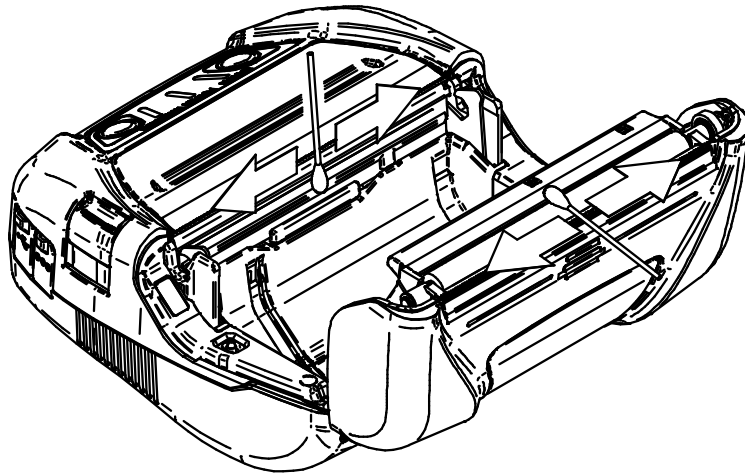

Figure 18-1 Thermal Head / Platen Cleaning
- (3) Open the paper cover.
- (4) Clean the thermal head and/or the platen with a cotton swab moistened with a small amount of ethyl alcohol. (See Figure 18-1.)